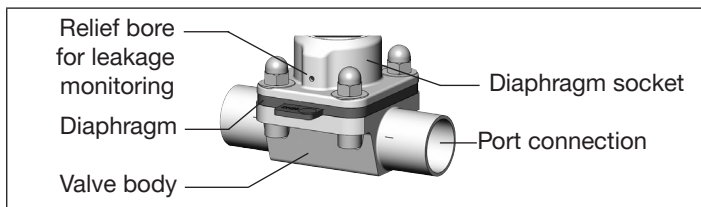

Fig. 18: Relief bore
- Periodic control of the relief bore (“Fig. 18”)